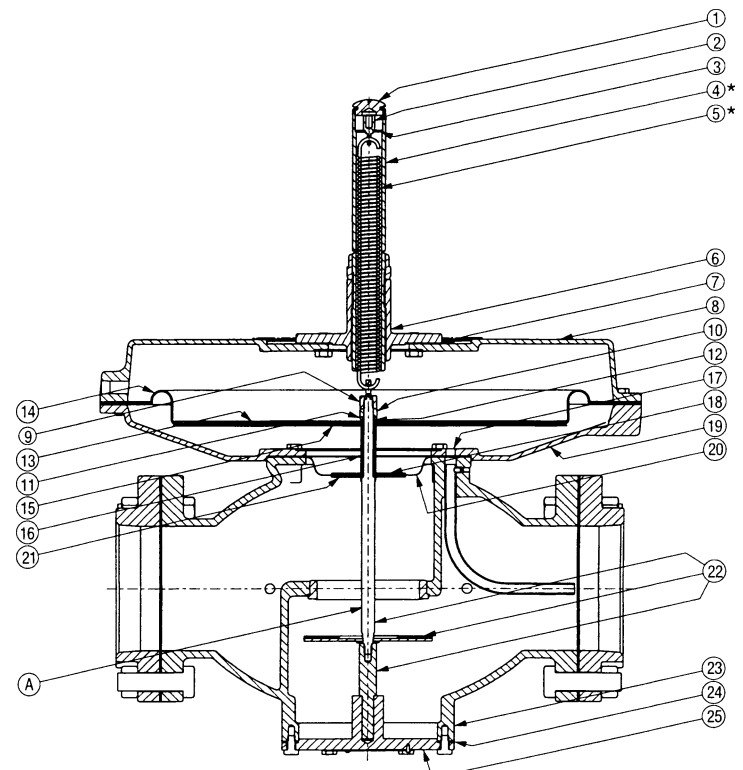

Figure 1. New diaphragm cover shown. Typical for 7216 and 7218-5, -6, and -7 only. See pages 3 and 4 for 7218 and 7216 replacement parts.
Repair Kits (RK) are used to upgrade -01\* through -4 size regulators from the old, "flat" diaphragm style regulator to the new, "molded" diaphragm style regulator, as well as to repair "molded" diaphragm style regulators. Note that for -5 through -7 sizes, a Repair Kit is used to repair only a "molded" diaphragm style regulator. An Upgrade Kit (UK) is required for the -5 through -7 sizes to change from a "flat" diaphragm style regulator to a "molded" diaphragm style regulator because the Upgrade Kit includes a necessary new gas diaphragm cover (see Figure 1). *If style of regulator is not known, order a -UK for -5, -6, and -7 sizes to assure all required parts are supplied. For Viton regulator repair kits, use -VRK or -VUK suffix.*